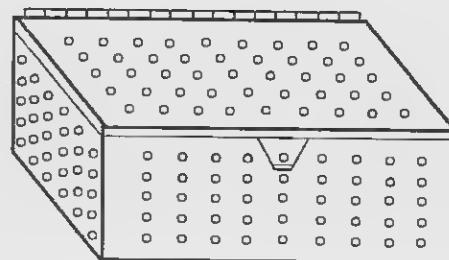

Figure 1-6. Sterilization case.
(2) *Sterilization case (fig 1-6).* The stainless steel sterilization case consists of the base section and a lid. Both the base section and lid are perforated to allow steam to circulate around the accessories being sterilized in the case.